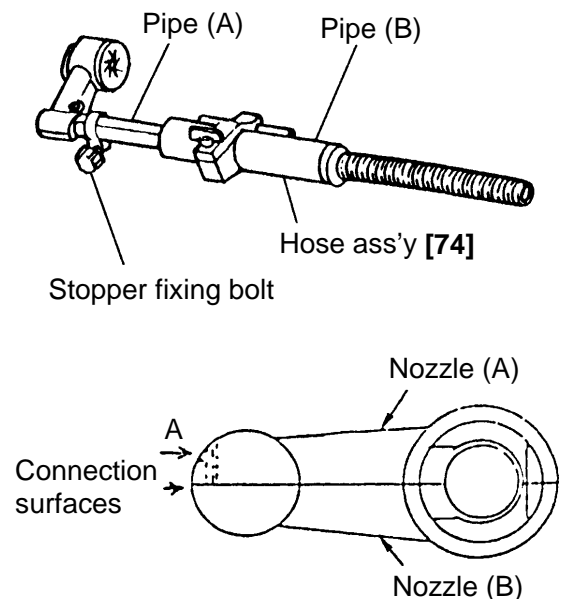

Fig. 13
● Disassembly of the Dust Collection Adapter Ass'y (Refer to Fig. 13.)
Disassemble the Rubber Cap [70] and the Nozzle Seal [69] from the nozzle portion, and remove the screw that fastens nozzle (A) and nozzle (B). While pressing the claw head of nozzle (B) in the direction indicated by arrow 'A' in Fig. 13, insert the tip of a thin slotted-head screwdriver between the surfaces in front of the claw-connected portion and pry up gently to disengage the claw so that nozzle (A) and nozzle (B) can be removed from pipe (A). Next, take the stopper off from pipe (A), and remove the o-ring from the tail cap side so that the tail cap can be removed from pipe (B). Pipe (A) can then be taken out from pipe (B) by enlarging its split section after removing the retaining wing bolt.